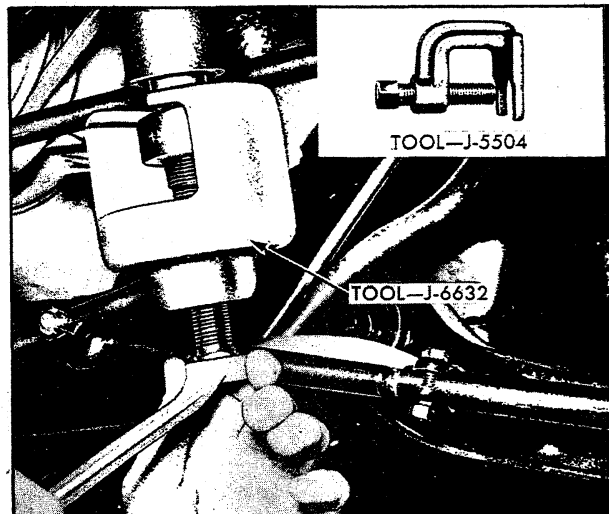

Fig. 2—Removing Pitman Arm
1. Remove pitman arm nut and mark relation of pitman arm position to sector shaft. Remove pitman arm with Tool J-6632 as shown in Figure 2.